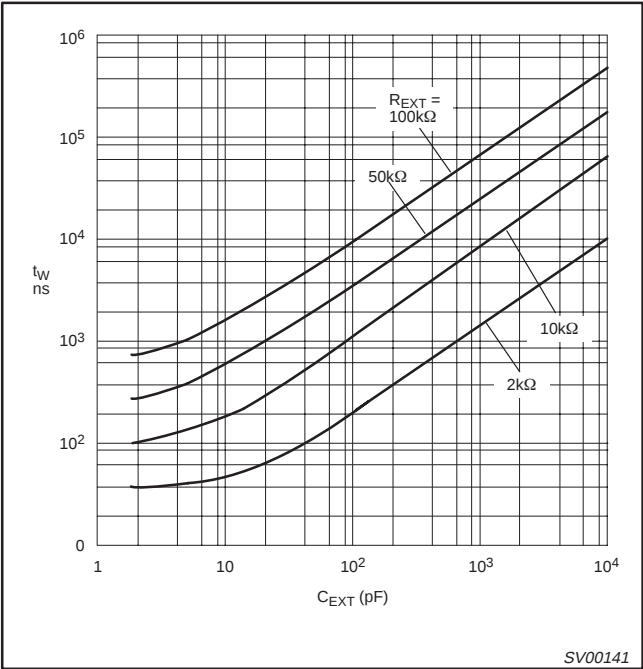

Figure 5. Typical output pulse width as a function of the external capacitor values at $V_{CC} = 3.3\text{ V}$ and $T_{amb} = 25^\circ\text{C}$.
- For other R_{EXT} and C_{EXT} combinations see Figure 5.